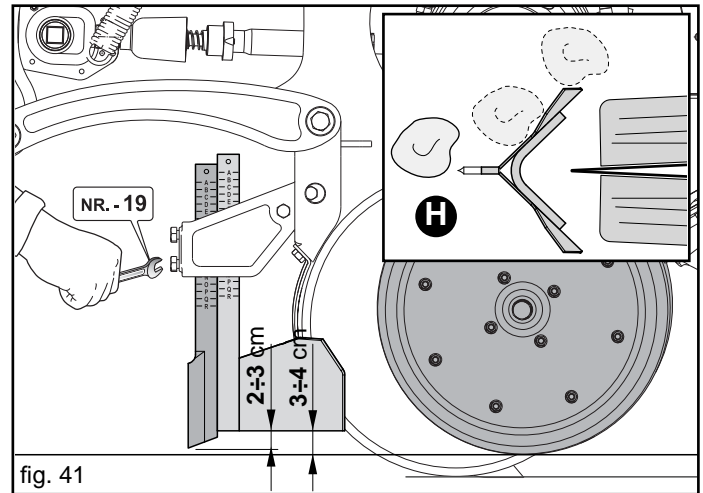

fig. 41
- On the outer element only, lower the front clod clearer to 3 to 4 cm from the level created by the depth wheels of the seeding element (Fig. 41), and the front earth-opening blade to approx. 2 to 3 cm from the wing of the clod clearer.